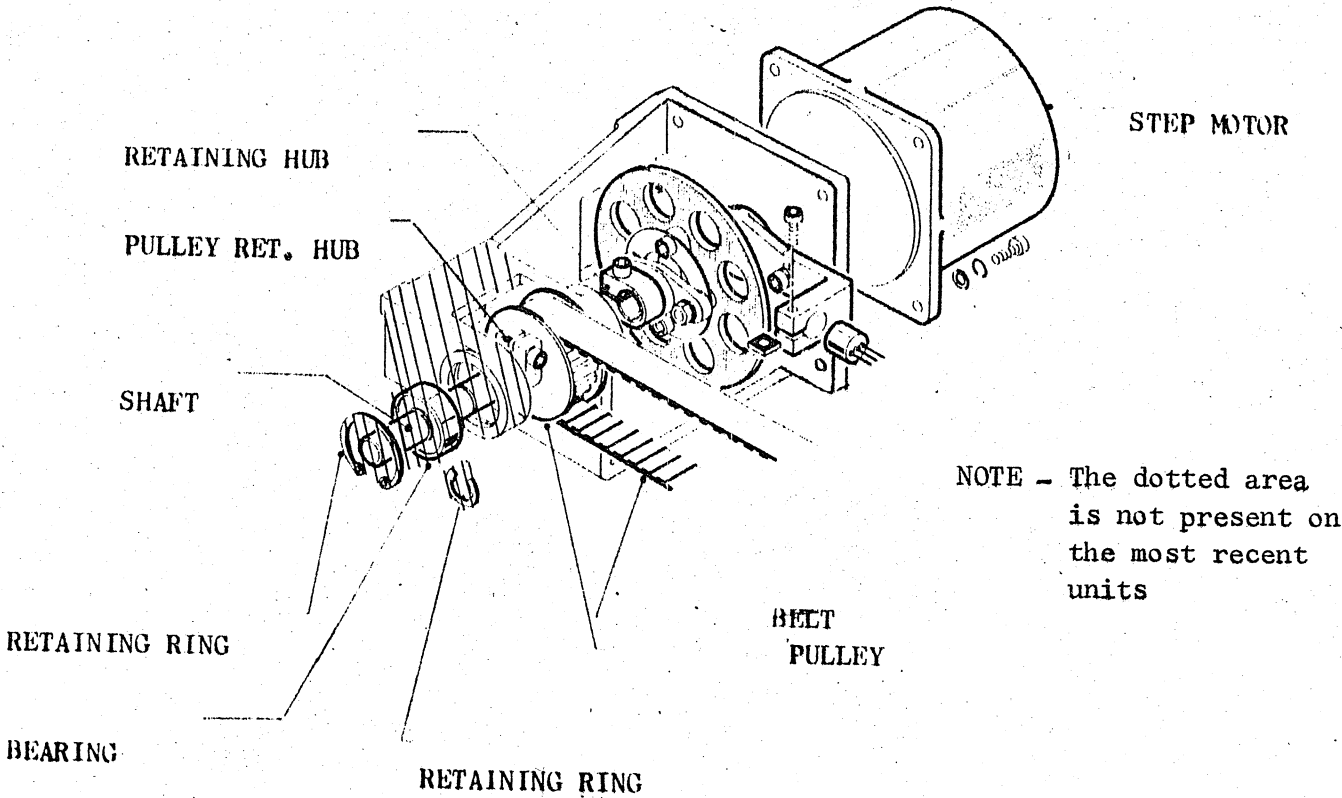

FIG. 8.22
The most recent units have the left pulley free, therefore the belt can be extracted without difficulty (see fig. 8.22).
- . Remove the retaining ring fitted on the left pulley shaft and set before the casting intermediate support. See fig. 8.22
SEE FIG. 8.22
- . place the belt on the left pulley and insert the shaft. See fig. 8.22